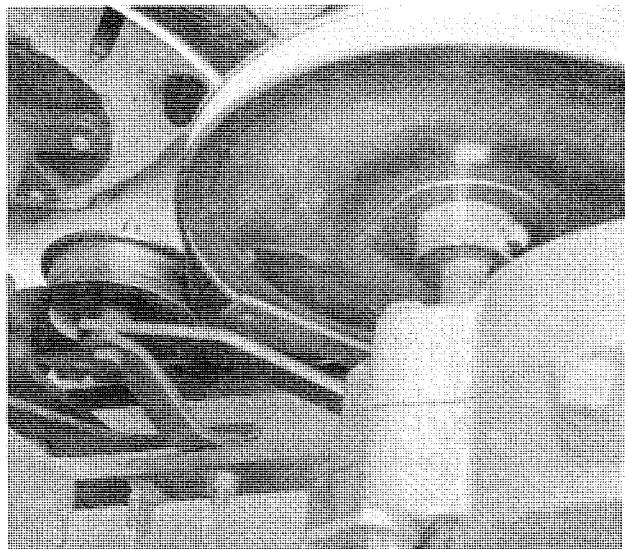

FIGURE 5
The second hole in the brace between the hitch and the end of the idler arm is provided for long belts and to compensate for belt stretch that may occur over a period of time. See Fig. 5.
3.1 There is a possibility that the left-hand fork (V-notch) on the front idler shaft assembly, part 103613, is not welded in proper position. This fork (V-notch) is used with hairpin type latch lock. (See Fig. 5 in parts list and instructions.)